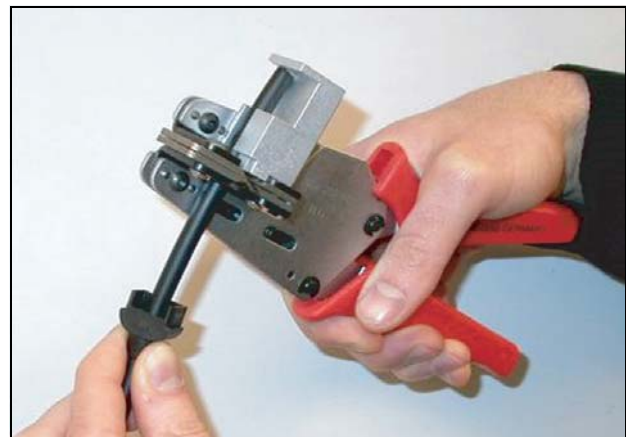

figure 29.7: Stripping the cable
- 5 Using the stripping tool (tool 5), strip the outer sheath of the cable by pushing the cable to the mechanical stop (see figure 29.7).